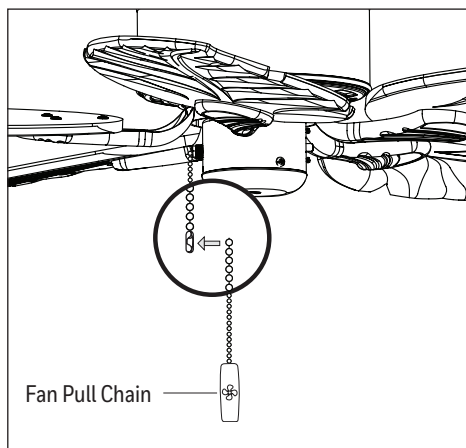

Figure 5.7
8. Turn on power to fan at breaker box and the wall switch (Figure 5.7). El ensamblaje está listo.